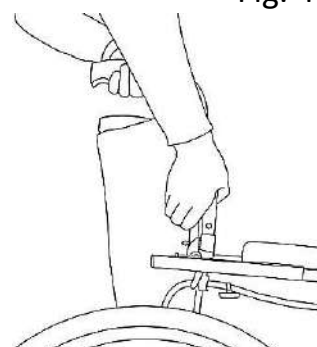

Fig. 4
3.1.4 Right motor Serial number label is located on the left motor. Please see Fig. 4.
Grasp the handle with one hand and press the back support with the other hand. Push the foldable set backward and pull the handle forward. Please see Fig. 4.